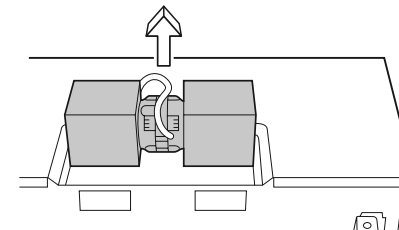

Figure 8
- Lift Hood Fan Unit carefully and slip wires out of cavity. See Figure 8.